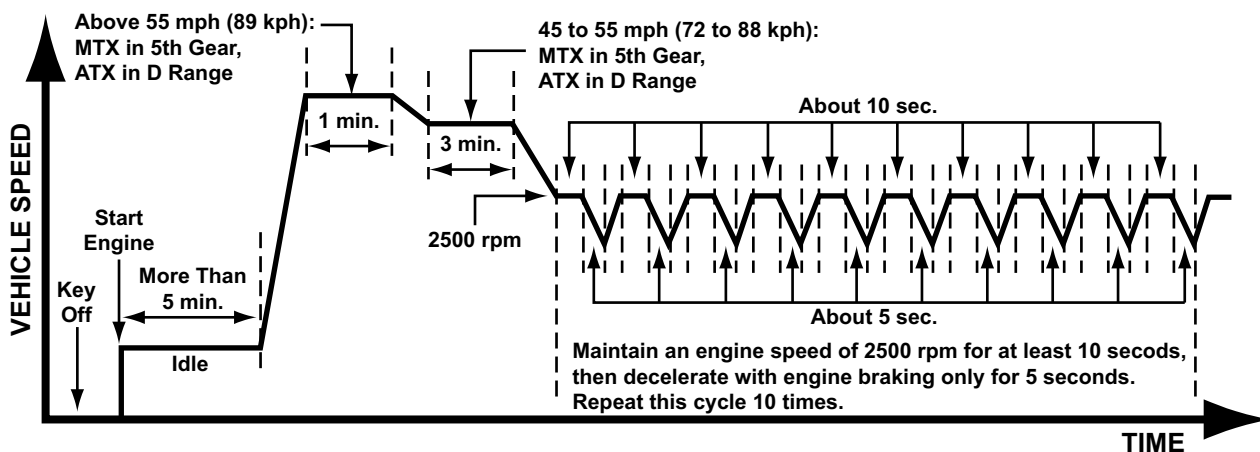

Figure MA000-33
3. Drive vehicle as shown in Figure MA000-33. Driving conditions before driving at constant speed are not specified.